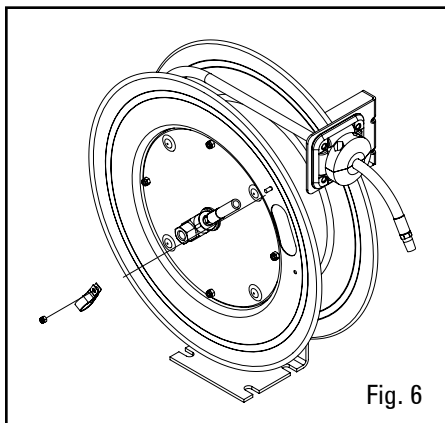

Fig. 6
5. Install the hose clamp (fig. 6).
3. Remove the screw nuts on the inside of the spool (fig. 6).